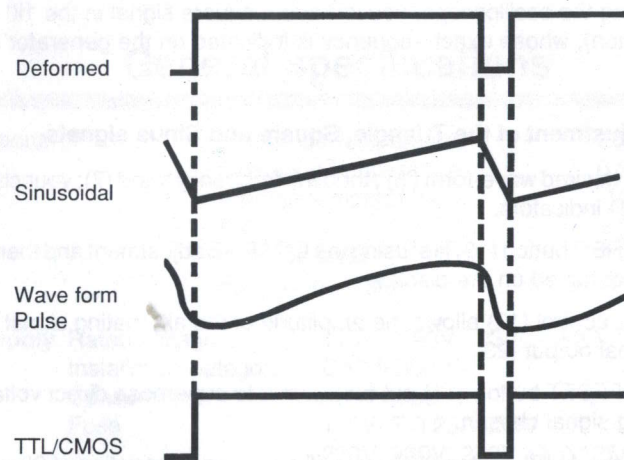

figure 2
- 1) First select a square wave-form (\square) with the controls (8) ; choose a frequency band (7), then adjust it accurately with FREQ button (13).
- 2) Connect an oscilloscope to the principal output (23) and adjust it.
- 3) Adjust the output level with the AMPL control (12).
- 4) If you pull out the AMPL button (12), you will attenuate the signal by 20dB.
- 5) Pull and turn the DUTY selector button (9) to adjust the width of the pulse required (see figure 2); note that the peak-peak amplitude is stable and the signal's RMS changes with the duty cycle.
- 6) If necessary, adjust the frequency slightly with the FREQ button (13).
- 1) First select a triangular wave-form (\triangle) with the controls (8) ; choose a frequency band (7), then adjust it accurately with FREQ (13).
- 5) Pull and turn the DUTY selector button (9) to adjust the slope of the ramp required (see figure 2); note that the peak-peak amplitude is stable and the signal's RMS changes with the duty cycle.
- 6) If necessary, adjust the frequency slightly with the FREQ button (13)